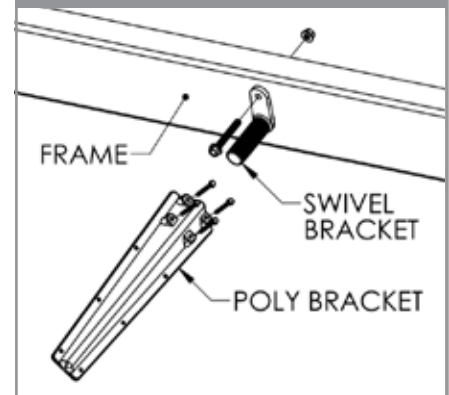

FIGURE 8
- A. Place four 5/16" x 3" bolts through the (10001464) poly bracket and the (10001485) backing block to clamp the (10001472) swivel. (See Figure 8)